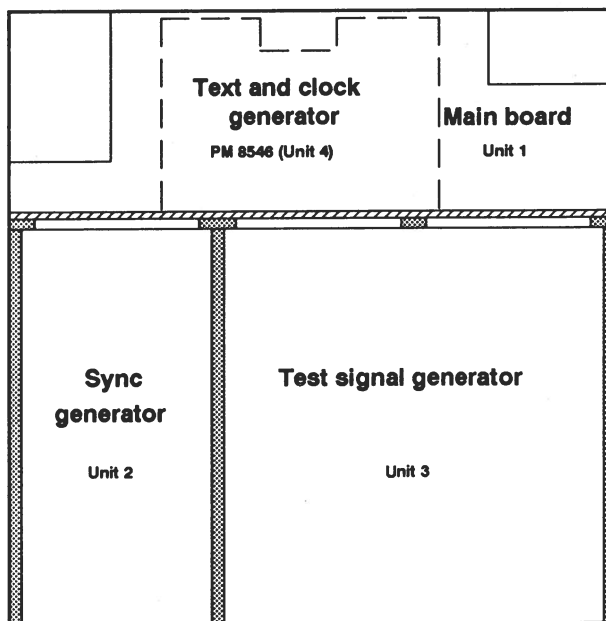

Fig. 5-2 Unit location, top view
- All units of the instrument are now accessible (see fig. 5-2).